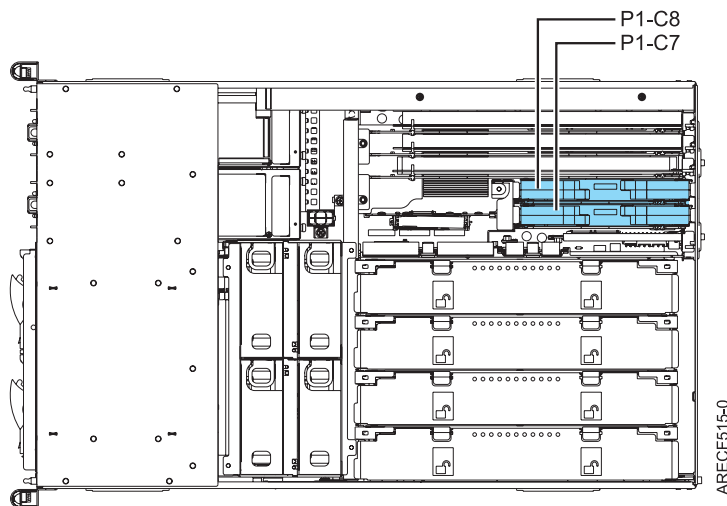

Figure 1. Top view of slots P1-C7 and P1-C8
8. Locate the appropriate slot in which to install the GX adapter. If there is only one processor card, you must use a Feature Code (FC) 5609 (GX+) adapter and choose slot P1-C8 as shown in Figure 1. If two processor cards are installed, P1-C7 also supports a GX adapter. To use the FC 5616 (GX++) DDR adapter, two or more processor cards are required.